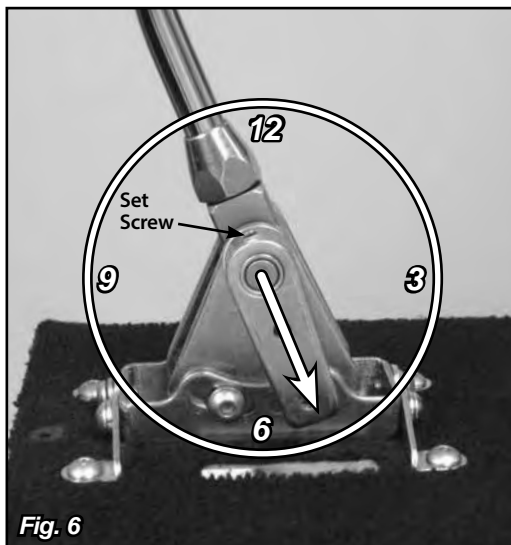

Fig. 6
**Step 6:** Make sure the shifter is in Park. Check the position of the quad lever. It should be pointing to about the 5:00 position. If it is not, loosen the set screw in the top of the quad lever with a 1/8" Allen wrench and slide the quad lever off of the shaft. Reposition it on the shaft at approximately the 5:00 position, and retighten the set screw. **Fig. 6**